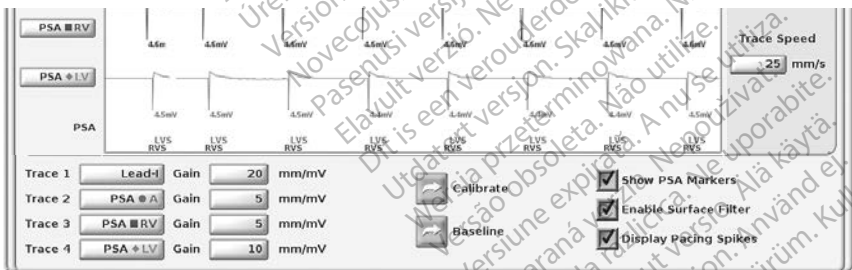

Figure 8. Lead Traces panel example (lower portion, magnified)
- The Magnify Traces button  enlarges the lead trace area to fill the display window button and provides additional information at the bottom of the traces display. See Figure 8.